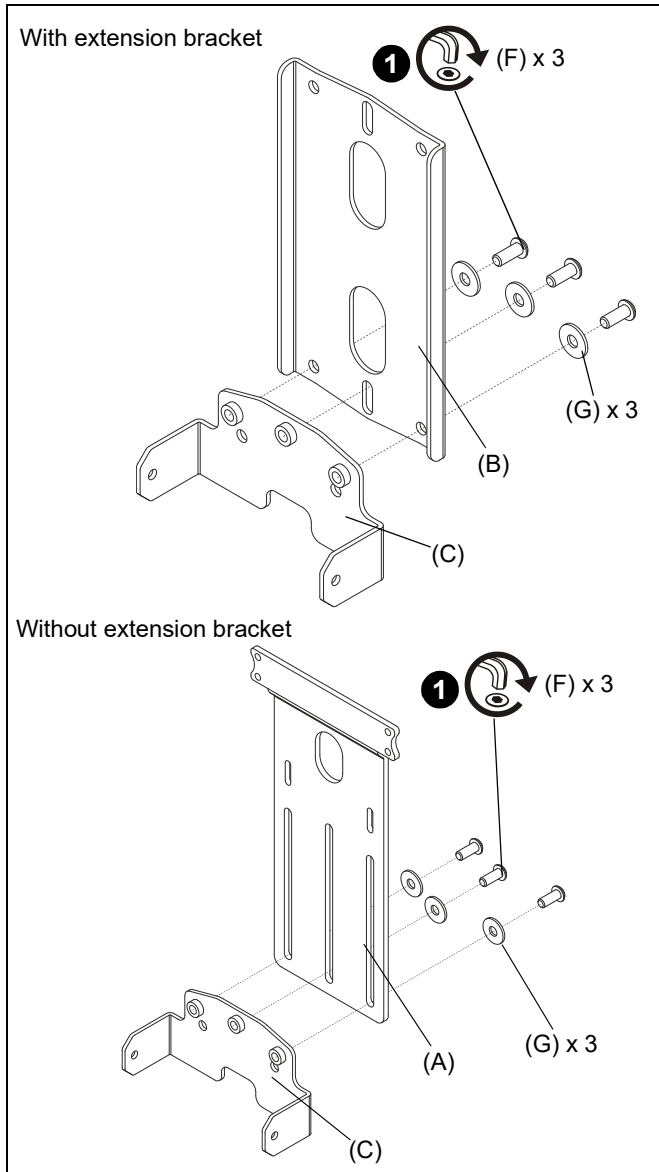

Figure 1
1. Use three 1/4-20 x 5/8" button head cap screws (F) and three 1/4" washers (G) to connect bracket (C) to either extension bracket (B) or attachment bracket (A). (See Figure 1)